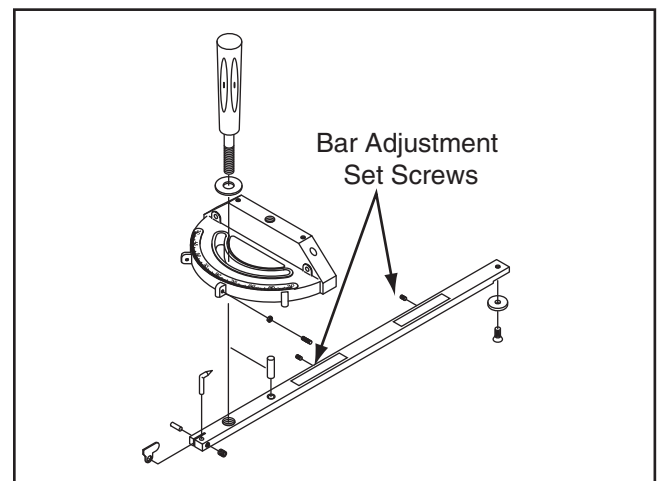

Figure 132. Screws for adjusting miter bar in miter slot.
1. Adjust set screws shown in **Figure 132**.